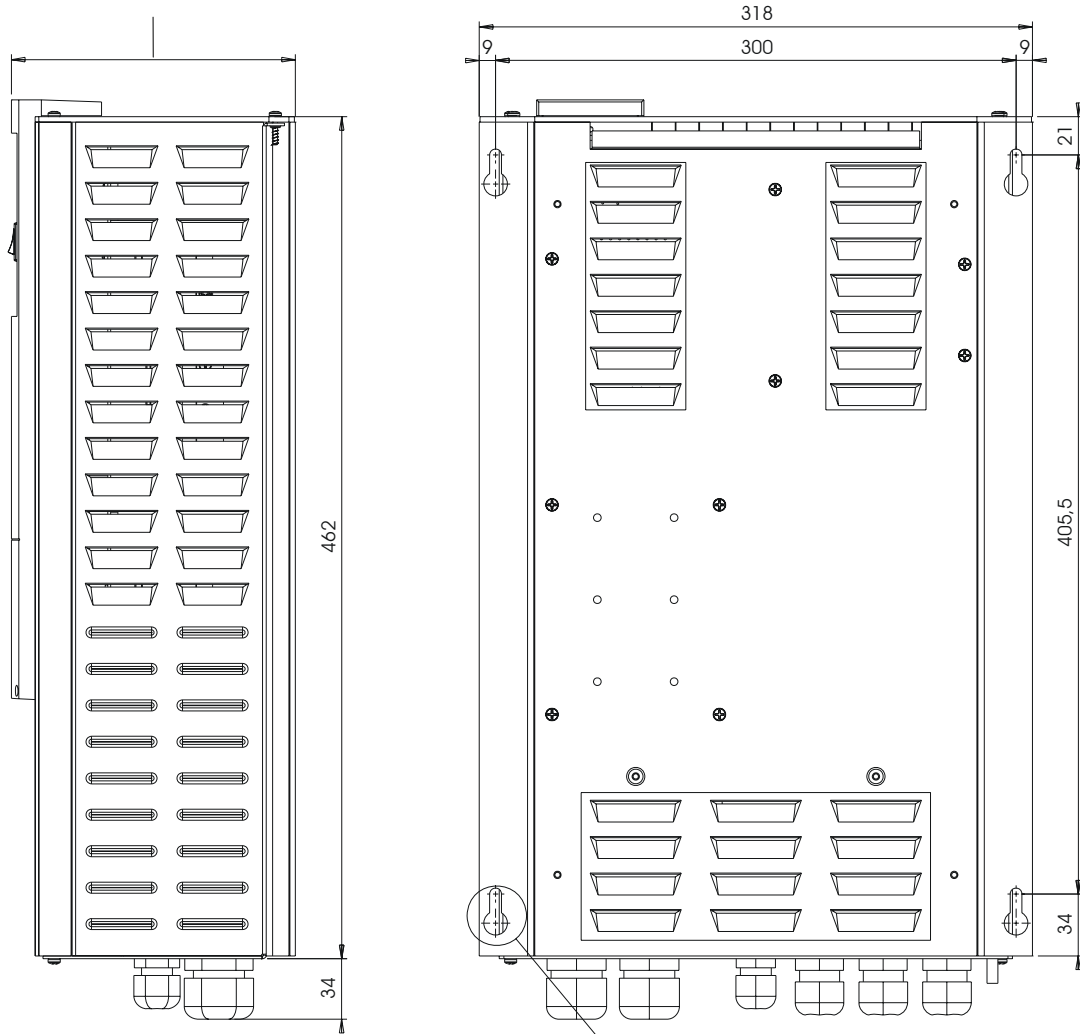

Figure 20:
- 1 Determine for the four mounting spots on the basis of the outline drawings (figure 20)